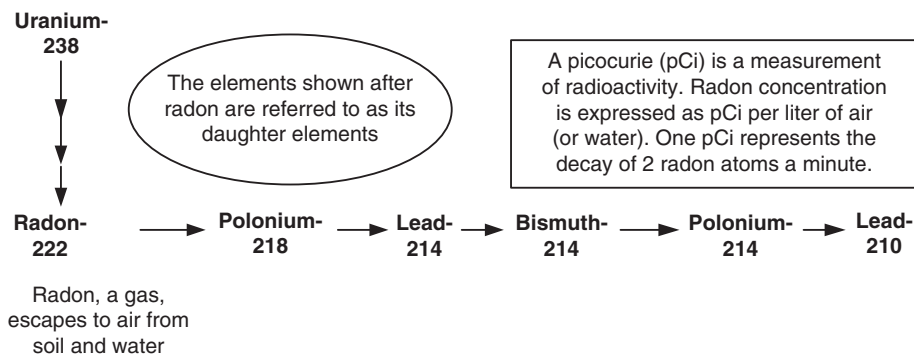

Figure 17.3
*Radon* (radon-222 or 222Rn), is a natural radioactive gas found outdoors and indoors. Its ultimate source is *uranium* (uranium-238 or 238U),21 which is naturally found in soil and rocks throughout the world. 238U goes through a series of decay reactions to form 222Rn (Figure 17.3). As a gas, radon makes its way to the surface as it is formed or into underground water where part dissolves. If radon surfaces outside, it dissipates into the atmosphere. However, if it surfaces beneath a house or other building, it seeps through openings into indoor air. There, unless ventilation is very good, its concentration builds up especially when it surfaces in basements. Radon in schools can be a concern. Trailers do not contact the earth and don't have radon. Radon levels in outdoor air range from 0.1–0.4 pCi/l (pCi picocurie, a unit of radioactivity). An average home has over 1 pCi/l in its air, and even 1 pCi/l is equivalent to about 50 chest X-rays a year. In the United States, the *action level* is 4 pCi/l: if a home's radon level is 4 pCi/l or higher, EPA recommends taking action to lower it.22 An estimated 6–8 million American homes have more than 4 pCi/l. Canada's action level is 20 pCi/l. Action levels for the UK and Germany are between 3 and 10 pCi/l. See Boxes 17.2 and 17.3.